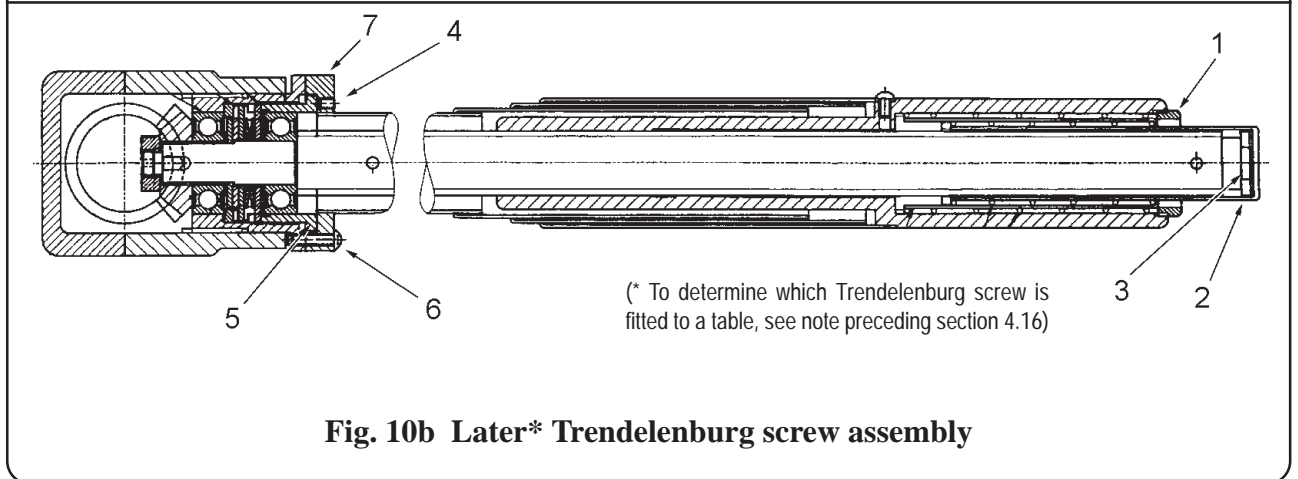

Fig. 10b Later* Trendelenburg screw assembly
4.18 For tables having the latest design of Trendelenburg screw assembly (see note preceding 4.16) the adjustment of the friction collar on the Trendelenburg screw **MUST** be checked regularly. If the table does not easily stay in Trendelenburg or reverse Trendelenburg position, but tends to slip down under patient's weight, this indicates that the friction collar needs adjusting. Refer to Fig. 10b and proceed as follows:
- ii Unscrew sleeve cap (1) and remove the end cap tubes (2) from the Trendelenburg screw assembly.